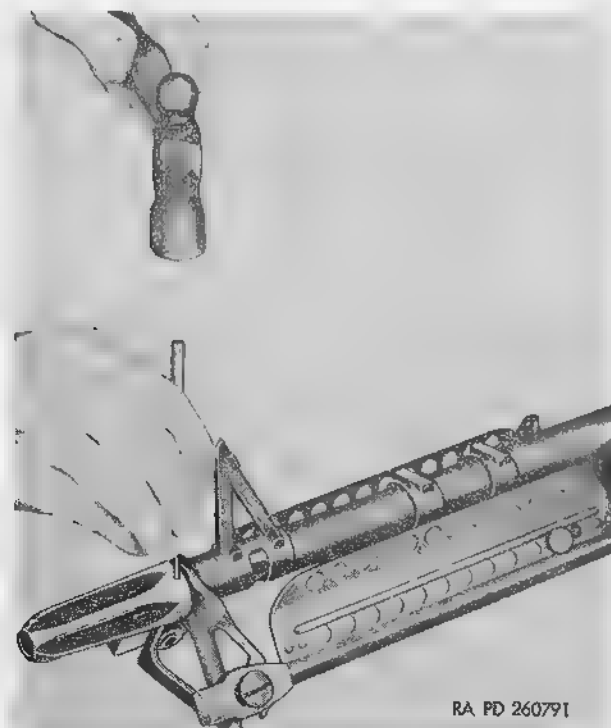

Figure 9. Removing pin from flash suppressor.
b. Remove flash suppressor pin from body of flash suppressor. Unscrew and remove flash suppressor from the barrel (fig. 9).